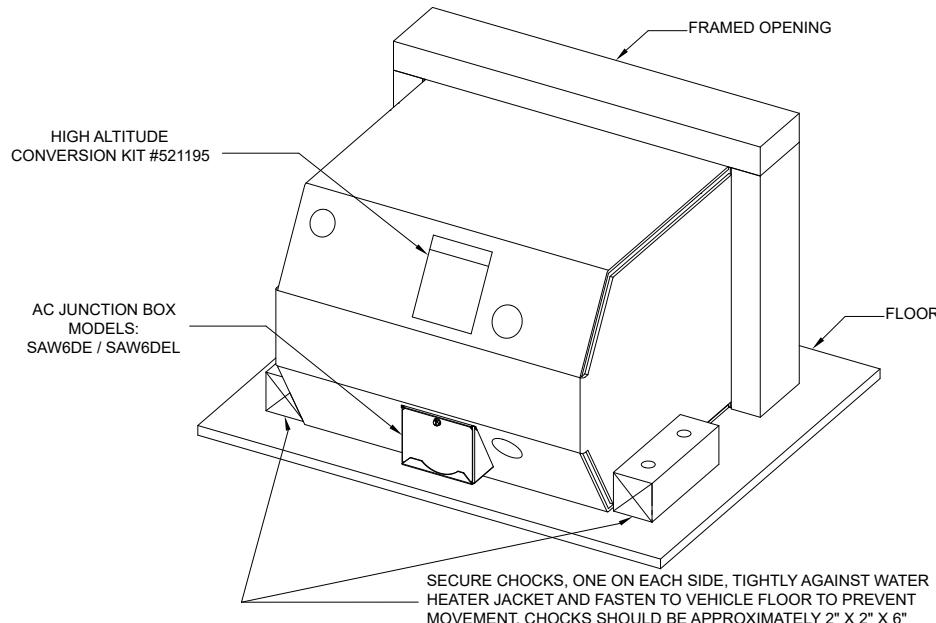

FIGURE 5
1. Locate High Altitude Conversion Kit #521195 which contains an orifice permanently marked #65 (refer to Figure 5 for kit location). Verify that the orifice in the conversion kit contains #65 permanent marking as shown in Figure 19F.